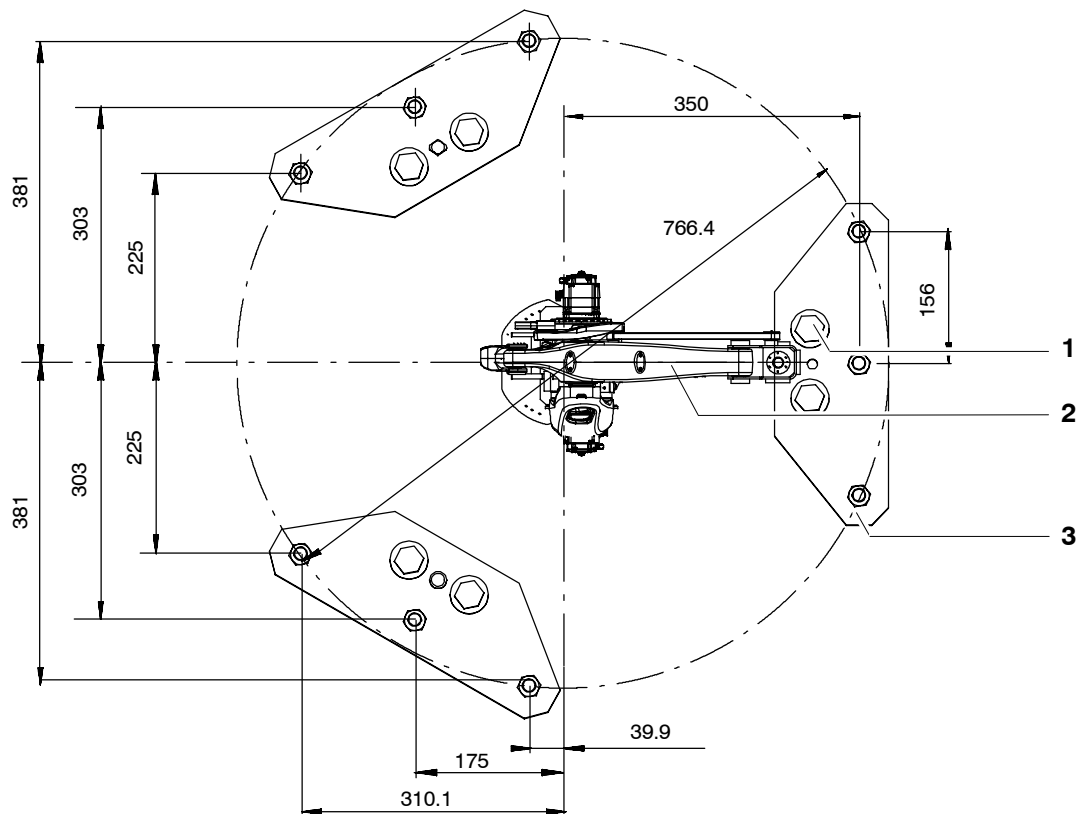

Fig. 36 Bedplates, connecting dimensions
- (1) Lift the manipulator with fork lift truck or lifting tackle.
- (2) Fasten each of the three bedplates (Fig. 36/3) to the manipulator (2) or to the drilling template by means of two M20x55-8.8-A2K hexagon bolts (1) and conical lock washers.